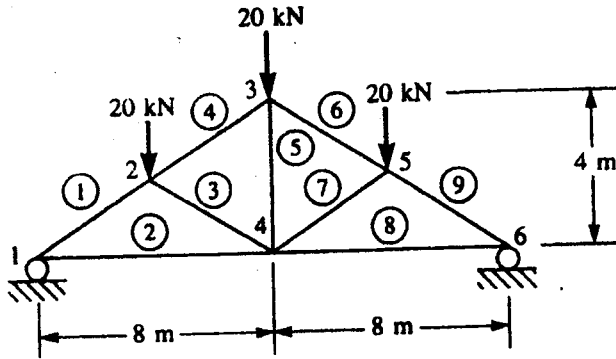

Fig. 1
- b) For the roof truss shown in Fig. 1, compute the stiffness matrix of element 3 and position the elements of this matrix in the global stiffness matrix of the entire truss. Nodal connectivity of element 3 is (4, 2). No other calculation is necessary. [7+7=14]